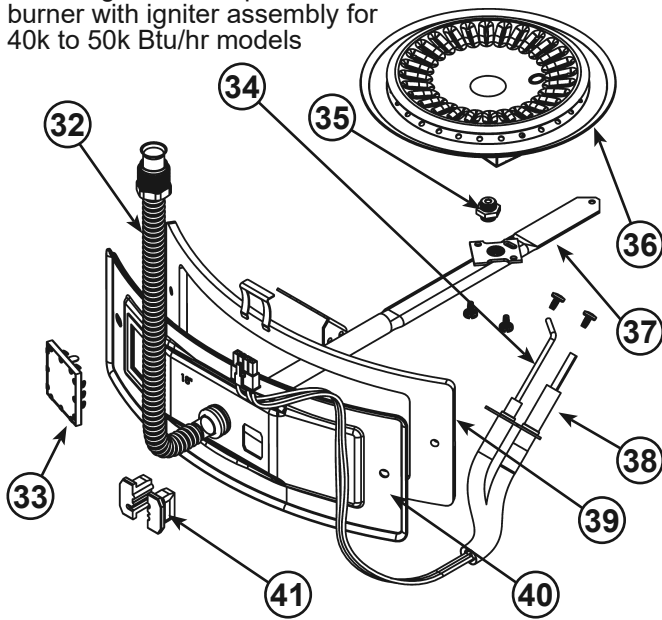
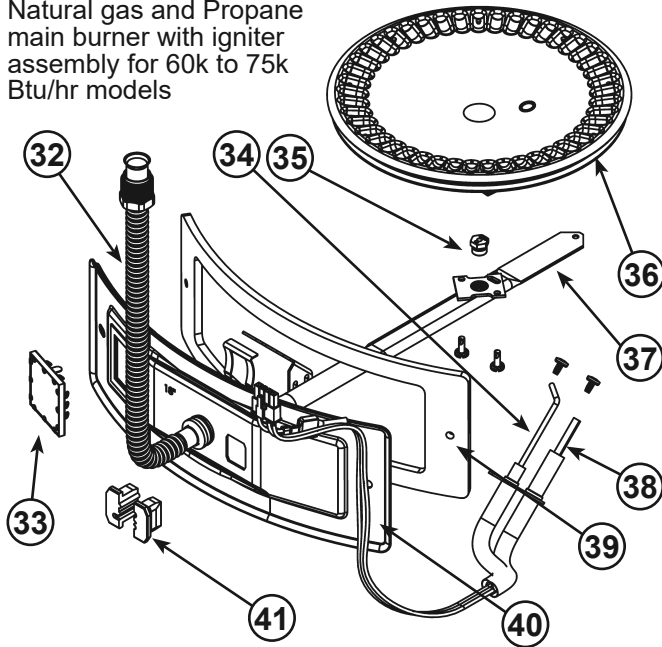
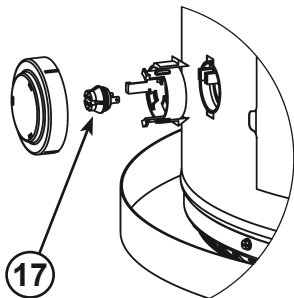
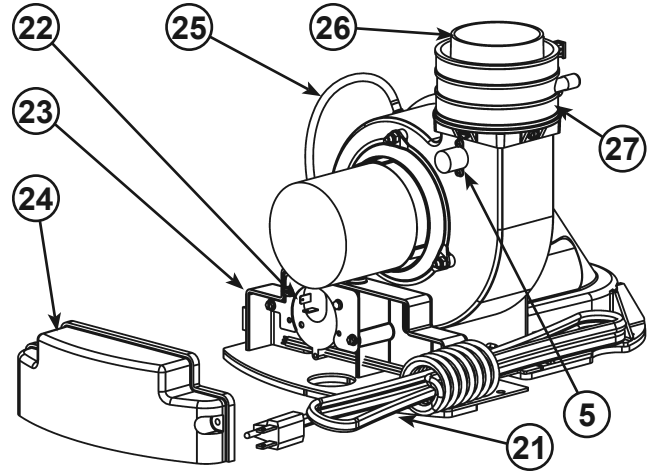

Figure 3.
Figure 4.
Figure 5.
Figure 6.
| 1. Vent Termination Elbow with Rodent Screen | 18. **Combo Heating System Return Inlet (Optional) | 35. Gas Orifice (see Figure 3 & Figure 4) |
| 2. *Vent Pipe | 19. Air Inlet Snorkel | 36. Sheet Metal Burner (see Figure 3 & Figure 4) |
| 3. *Vent Pipe Coupling (if required) | 20. **Combo Heating System Supply Outlet (Optional) | 37. Gas Manifold (see Figure 3 & Figure 4) |
| 4. *Vent Pipe Elbow (long radius) | 21. Blower with Power Cord (see also Figure 6) | 38. Hot-Surface Igniter (see Figure 3 & Figure 4) |
| 5. Blower High Limit Switch (see Figure 6) | 22. Air Switch (inside box) (see Figure 6) | 39. Manifold Door Gasket (see Figure 3 & Figure 4) |
| 6. T&P Valve | 23. Junction Box (see Figure 6) | 40. Manifold Door (see Figure 3 & Figure 4) |
| 7. Cold-Water Inlet Nipple/Diptube | 24. Junction Box Cover (see Figure 6) | 41. Two Piece Grommet With Clip (see Figure 3 & Figure 4) |
| 8. Baffle Assembly | 25. Air Tubing (see Figure 6) | 42. *Inlet Water Shut-off Valve |
| 9. * Discharge Pipe | 26. Rubber Coupling (see also Figure 6) | 43. *Gas Supply* |
| 10. Gas Control Valve/Thermostat (Honeywell/Resideo) | 27. Gear Clamp (see also Figure 6) | 44. *Main Manual Gas Shut-off Valve |
| 14. Manifold Door Assembly (behind outer door) (see Figure 3 & Figure 4) | 31. ***Control Harness | 48. Rating Plate |
| 15. *Floor Drain | 32. Flexible Manifold Tube (see Figure 3 & Figure 4) | 49. *Thermal Expansion Tank (required for all closed systems) |
| 16. *Metal Drain Pan | 33. Viewport (see Figure 3 & Figure 4) | |
| 17. Flammable Vapor Sensor (under cover) (see Figure 5) | 34. Flame Sensor Rod (see Figure 3 & Figure 4) | |
This device is located on the blower (see Figure 6, item 5) and limits the maximum temperature of the blower. If the blower temperature rises above the temperature setting, the switch opens causing the heater to shut down. The switch will auto reset once the temperature drops sufficiently.
This device, located in the junction box, monitors the air pressure produced by the blower. In the event that the exhaust venting becomes blocked or sufficiently restricted, the switch will shut the heater down (see Figure 6, item 22).